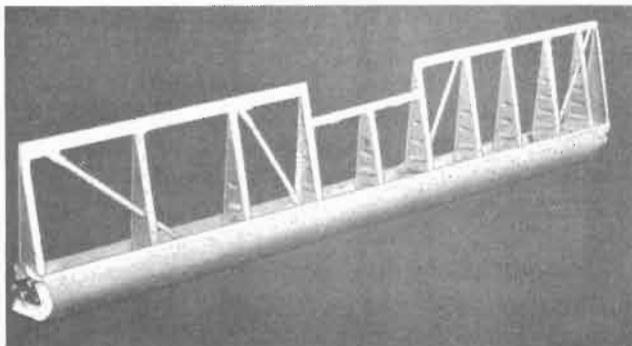

Figure 57 — Aileron Structure
(4) AILERONS.—(See figures 57, 58, 59.)—Frise-type ailerons are installed in the trailing edge of each outer panel and are located outboard of the wing flaps from which they extend to the wing tips. The aileron frame structure is made principally of 24ST and